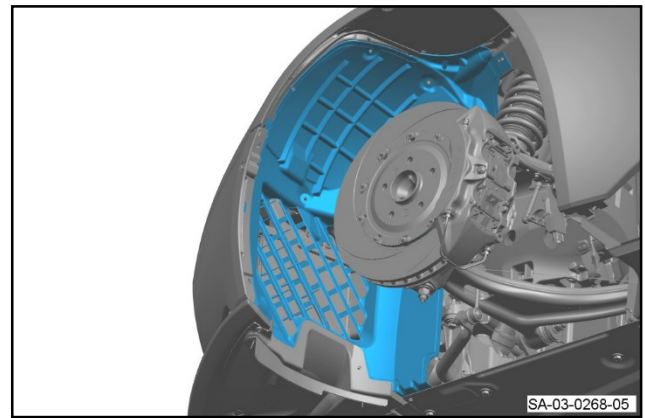

Figure 7
9. Put the front section of the front left side wheel arch liner back into position (refer to Figure 7).